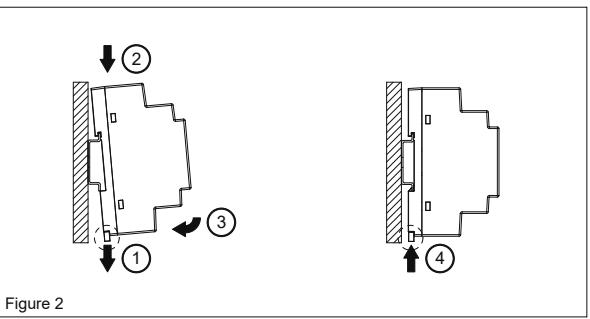
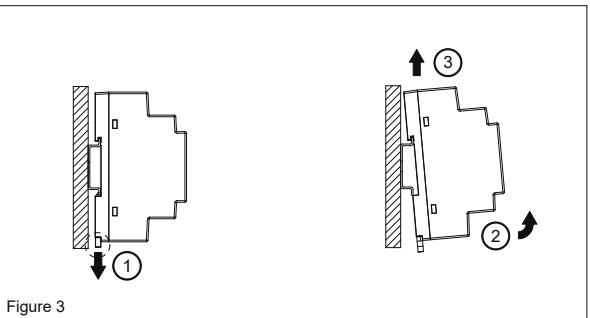

Figure 2
Figure 3
#### 3. Mounting and dismantling (Fig. 2, Fig. 3)
Each device is delivered ready to install. Snap on the DIN rail as shown in Fig. 2:
5. To uninstall, pull the unit's DIN rail latch OUT as shown in Fig. 3. Tilt the bottom part of the unit out. Push the unit up and pull out from the DIN rail.